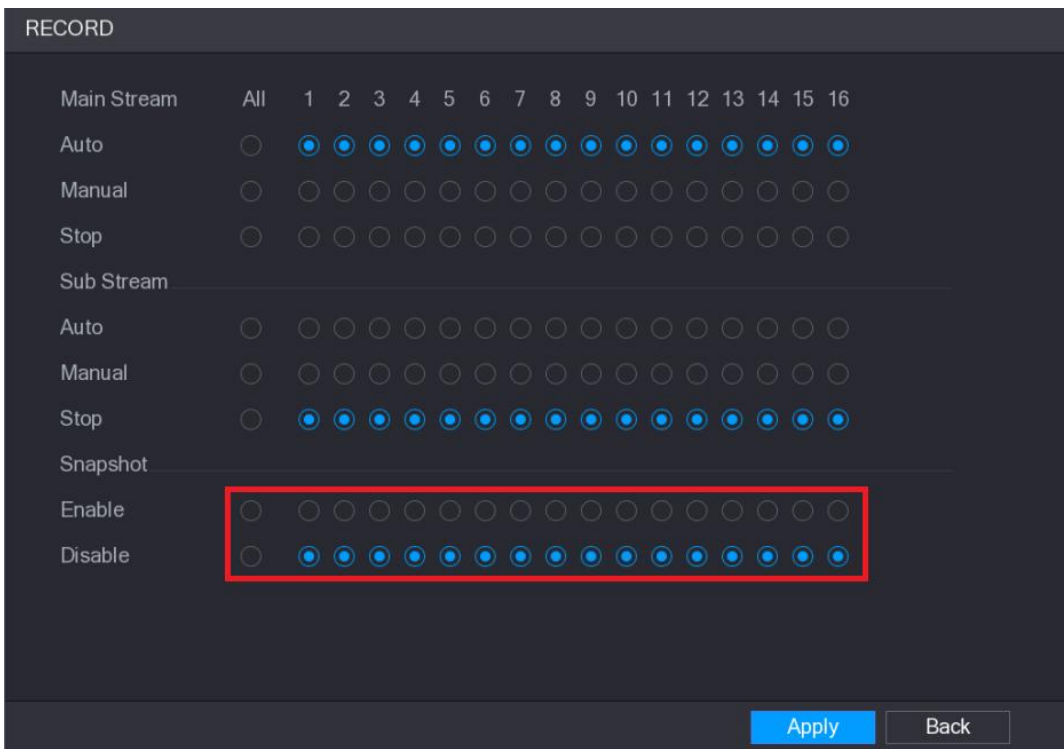

Figure 5-95
Step 3 In the **Snapshot** area, enable the snapshot for the channels if needed. See Figure 5-95.